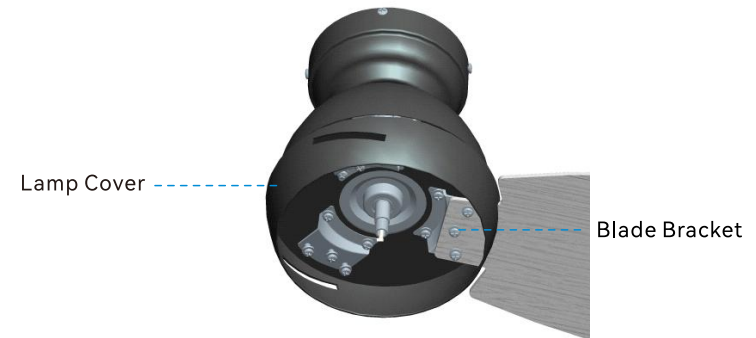

Fig 6.1
6.1 Locate 9 blade attachment screws and washers in the hardware pack. Slide the blade through the lamp cover and align the blade holes with the screw holes of the blade bracket and fasten the blade with the screws and washers as shown in Fig 6.1.